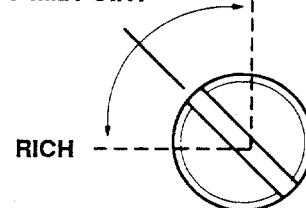

Figure 18
3. **Low Idle Fuel Needle Setting:** Place the throttle into the "idle" or "slow" position. Turn the low idle fuel adjusting needle **out** (counterclockwise) **slowly** from the preliminary setting until the engine speed decreases (rich). Note the position of the needle. Now turn the adjusting needle **in** (the engine speed will initially increase) until the engine speed decreases (lean). Note the position of the needle. Set the adjusting needle midway between the rich and lean settings by backing out the needle approximately 1/8 to 1/4 turn (See Figure 18).